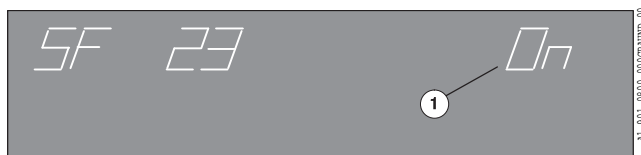

Fig. 40 SF 23: Numbering without printing
3. With the + button, switch from OFF to ON (Fig. 40/1).